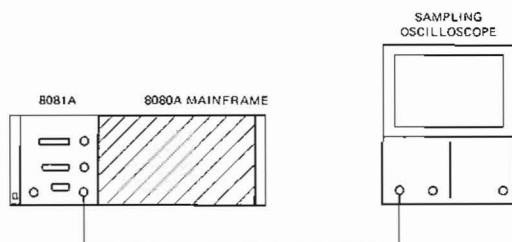

Figure 4-2. Trigger Output Test Setup
1. Set up the equipment as shown in figure 4-2 and set the controls as follows: